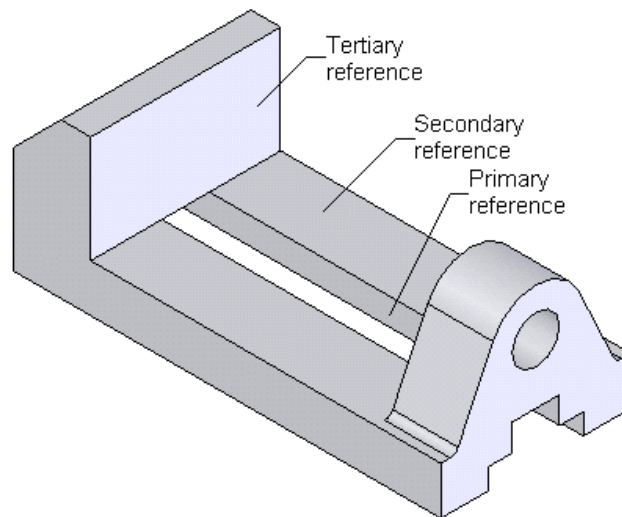

Figure 10-54 Faces to be selected as mate references
4. Select the planar face shown in Figure 10-54 of the model as the primary reference. The selected planar face will be highlighted in green.
6. Select the planar face shown in Figure 10-54 of the model as the secondary reference. The selected face will be highlighted in red.
8. Select the planar face of the model shown in Figure 10-54 as the tertiary reference. The selected face will be highlighted in brown.